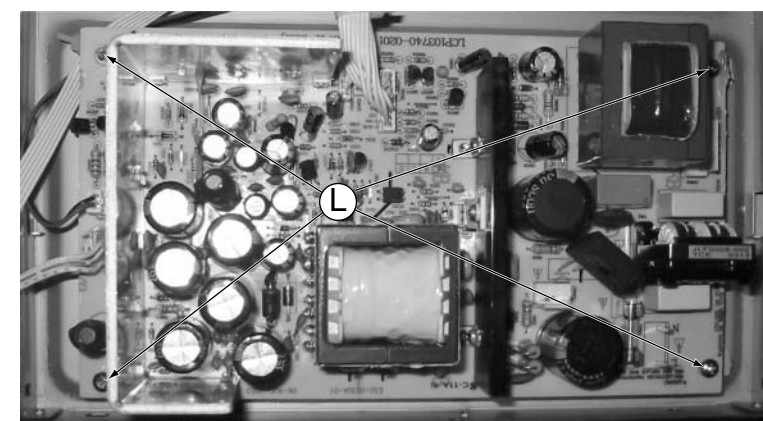

Figure 12
- 1) Loosen 4 screws ' L ' to remove the Power Board figure 12.